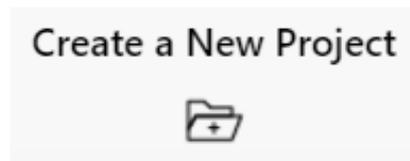

Figure 17. Create project icon.
2. Click on the icon of a folder with the plus sign to create a new project (Figure 17). This will open a File Explorer window.